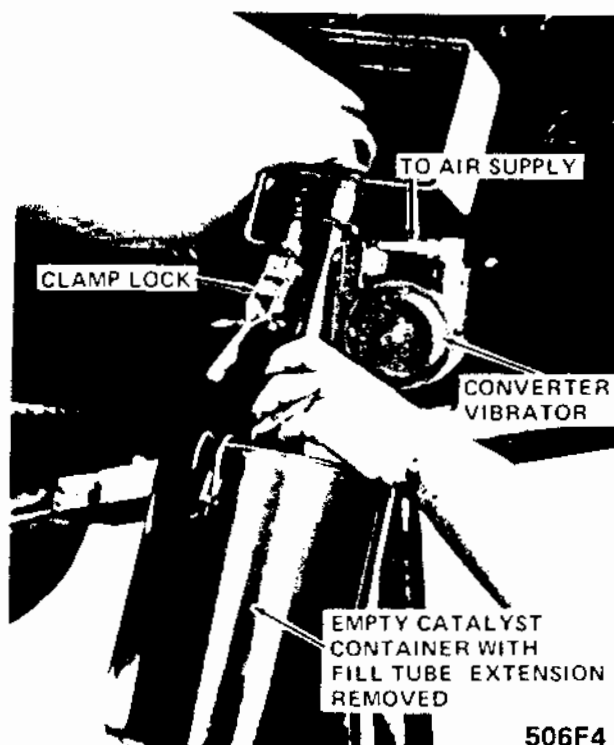

Figure 6F-4 Installing Vibrator
4. Clamp on vibrator. See Figure 6F-4.